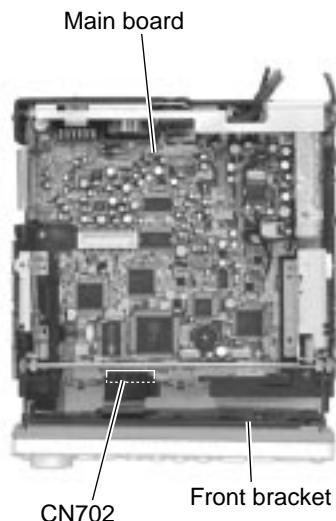

Fig.17
■Removing the lifter board (See Fig.17 to 23)